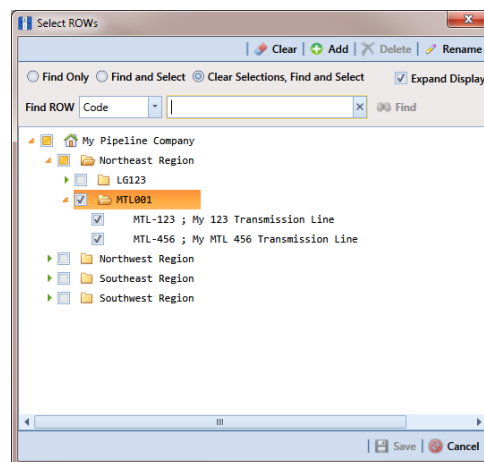

Figure 10-40. Select ROWs
- 1 Select one or more pipeline segments in the *Select ROWs* window. Choose pipeline segment(s) with facilities you want to include in the Bridge definition. Click  **Save** to close the window (Figure 10-40).